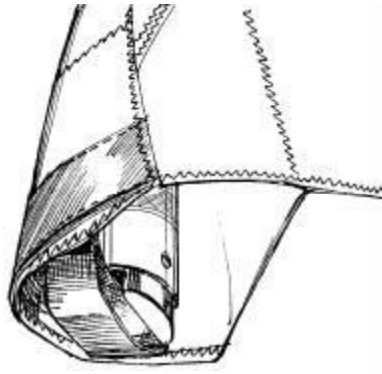

Fig.16
Fix the joint using the nut and the safety ring (Fig.16).
2.1.17. Tighten the sail along the leading edge and put the sail mount webbing into the slot in the endcap. Fix the sail by inside velcro. (Fig.16).